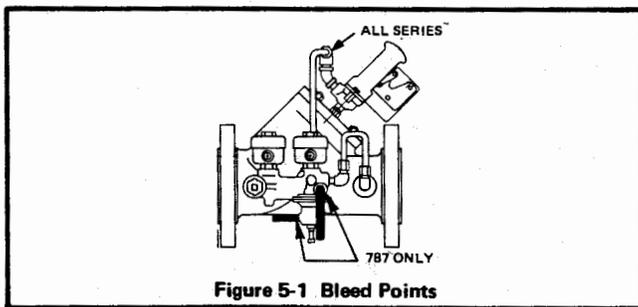

Figure 5-1 Bleed Points
6. Bleed as much air from system before start-up. If inconvenient to bleed air then start system very slowly. (Reference Figure 5-1).